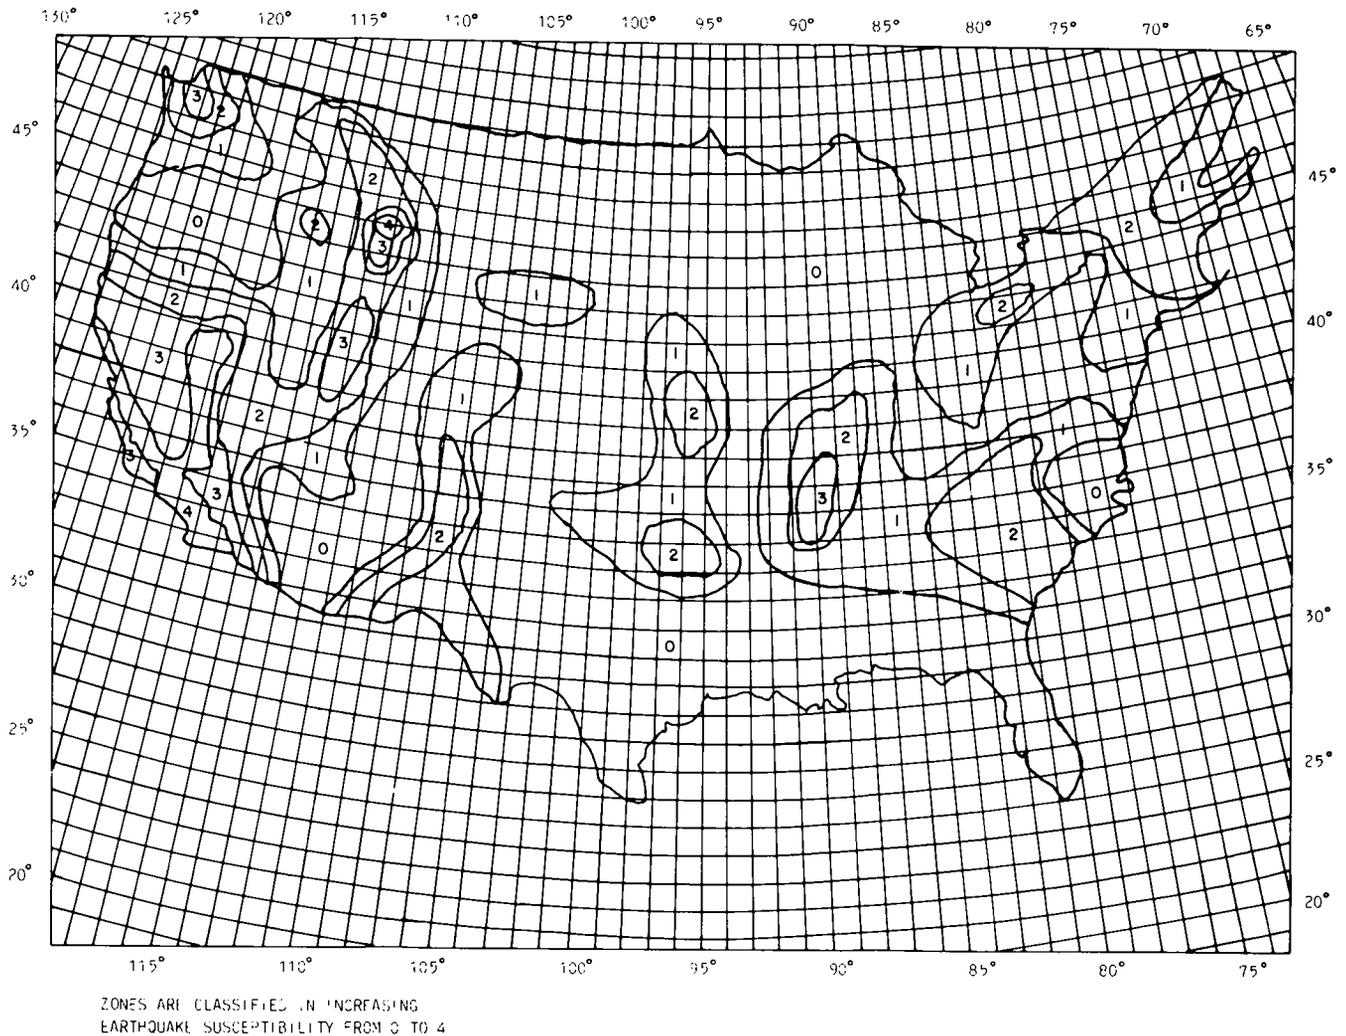

Fig. 22—Earthquake Zones (USA)
**4.08** Earthquake zones for the continental United States are shown in Fig. 22. The zones are classified by susceptibility with 4 being the most susceptible.